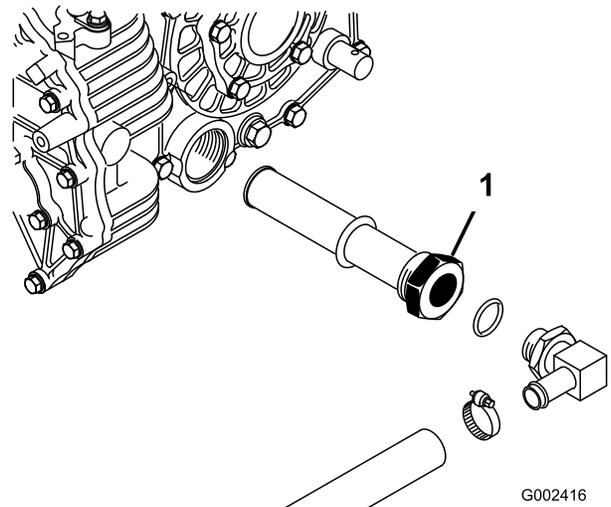

Figure 60
3. Note the orientation of the hydraulic hose and 90 degree fitting connected to the strainer on the side of the reservoir (Figure 60). Remove the hydraulic hose and 90 degree fitting.